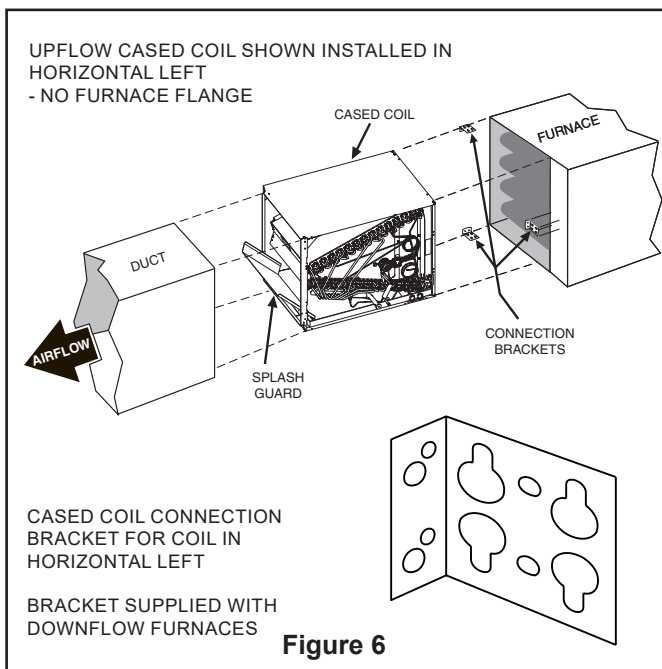

Figure 6
- g. Attach the coil to the furnace. Horizontal left coils will require connection brackets if no furnace flange is present. See Figure 6. If furnace flange is present, use standoffs and screws provided with the upflow furnace. If furnace flange is present, use field provided screws no longer than 1.5" to attach furnace to cased coil in the four around holes on the sides of the cased coil. See furnace installer guide for instructions.